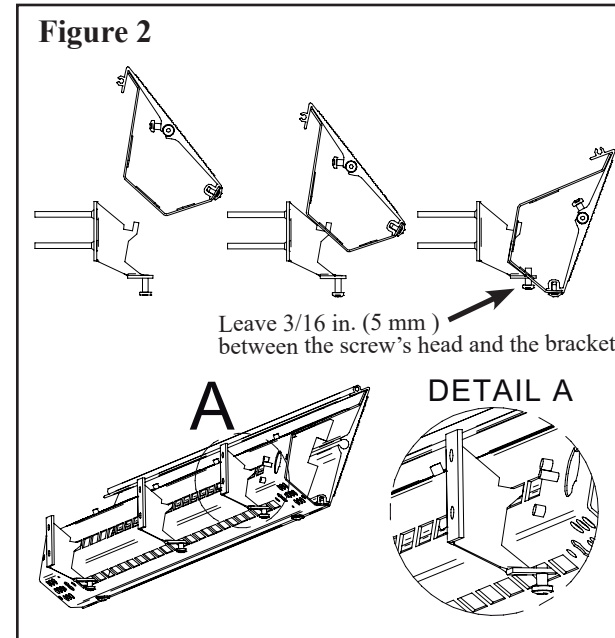

Figure 2
4. Attach the back shield to the brackets by tilting it back and allowing the bracket hook to enter the back shield slot then simply bring back the shield forward locking it into place. See Fig. 2.
6. Add the screw to secure the whole. See Fig. 2.